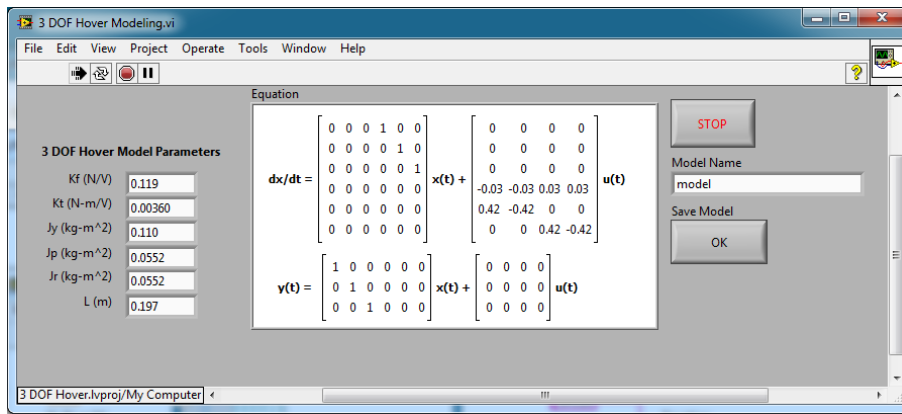

Figure 4.2: 3 DOF Hover Modeling VI
3. Open the *3 DOF Hover Modeling.vi* shown in Figure 4.2.